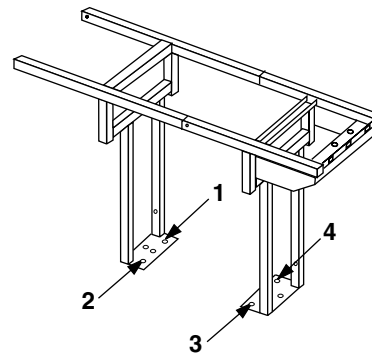

Figure 5
**⚠WARNING:** Whichever method used, the base must be bolted down (anchored) at a minimum of four anchoring points (two per side) prior to barbecue assembly. One anchor in each corner of the base plate. Figure 5.